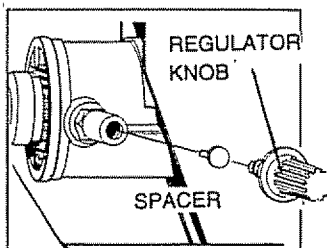

FIG. 16
- Replace the spacer so the protruding part goes in first (Fig. 16).